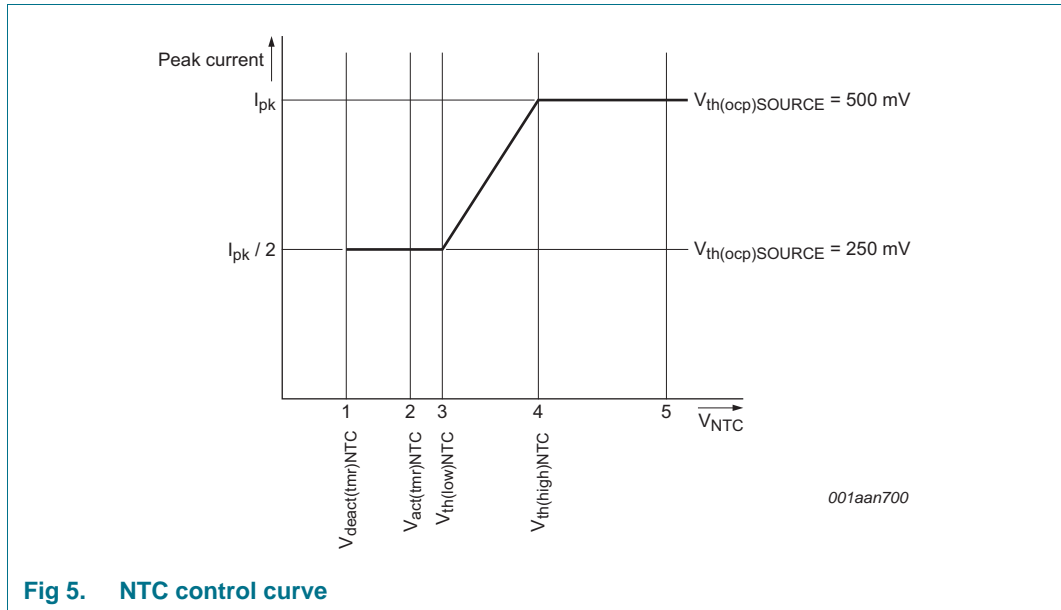

Fig 5. NTC control curve
The NTC pin can be used as a control method for LED thermal protection. Alternatively, the pin can be used as an input to disable/enable light output using a digital signal (PWM current regulation). The pin has an internal current source that generates the current of  $I_{\text{offset}(\text{NTC})}$ . An NTC resistor to monitor the LED temperature can be directly connected to the NTC pin. Depending on the resistance value and the corresponding voltage on the NTC pin, the converter reacts as shown in Figure 5.
When the voltage on the NTC pin is higher than  $V_{th(high)NTC}$  see Figure 5 (4), the converter delivers nominal output current. When the voltage is lower than this level, the peak current is gradually reduced until  $V_{th(low)NTC}$  is reached, see Figure 5 (3). The peak current is now half the peak current of nominal operation. When  $V_{act(tm_r)NTC}$  is passed, see Figure 5 (2) a timer starts to run to distinguish between the following situations:
- If the low-level  $V_{deact(tm_r)NTC}$  is not reached within time  $t_{to(deact)NTC}$ , Figure 5 (1) LED overtemperature is detected. The IC stops switching and attempts to restart from the HV pin voltage. Restart takes place when the voltage on NTC pin is higher than  $V_{th(high)NTC}$ , see Figure 5 (4). It is assumed that the reduction in peak current did not result in a lower NTC temperature and LED OTP is activated.
- If the low-level  $V_{deact(tm_r)NTC}$  is reached within the time  $t_{to(deact)NTC}$ , Figure 5 (1) it is assumed that the pin is pulled down externally. The restart function is not triggered. Instead, the output current is reduced to zero. PWM current regulation can be implemented this way. The output current rises again when the voltage is higher than  $V_{deact(tm_r)NTC}$ .
The NTC pin can be used to make a soft start function. During switch-on, the level on the NTC pin is low. By connecting a capacitor (in parallel with the NTC resistor), a time constant can be defined. The time constant causes the level on the NTC pin to increase slowly. When passing level  $V_{th(low)NTC}$  Figure 5 (3), the convertor starts with half of the maximum current. The output current slowly increases to maximum when  $V_{th(high)NTC}$  Figure 5 (4) is reached.